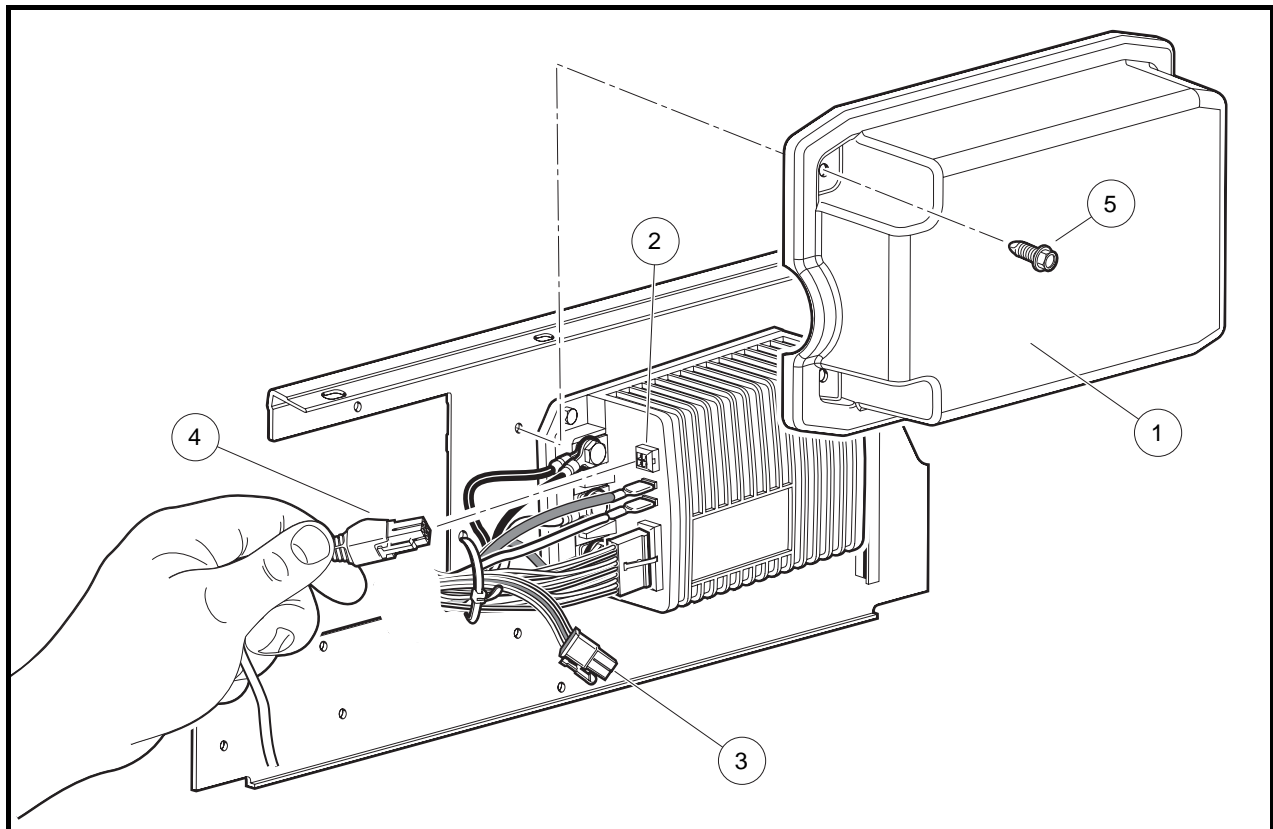

Figure 12-8 IQ System Component Mounting Plate
- 4.2. Remove the two screws (5) securing the controller cover (1) to the component mounting plate (**Figure 12-8**).
- 4.5. Connect the other end of the handset cord (without the adapter) (4) to the four-pin connector of the speed controller (2) (**Figure 12-8**).